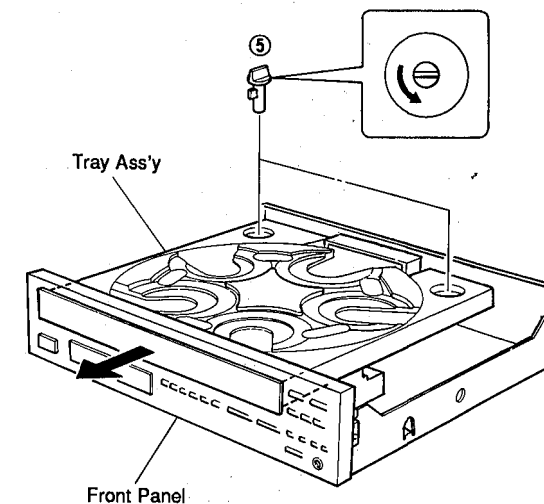

Fig. 6
a. Turn the stopper/tray pin ( ⑤ ) counterclockwise by 90° degrees to pull it out as shown in Fig. 6.
b. Slowly remove the Tray Ass'y as shown in Fig. 6. Remove connector #4 from the Main Circuit Board.